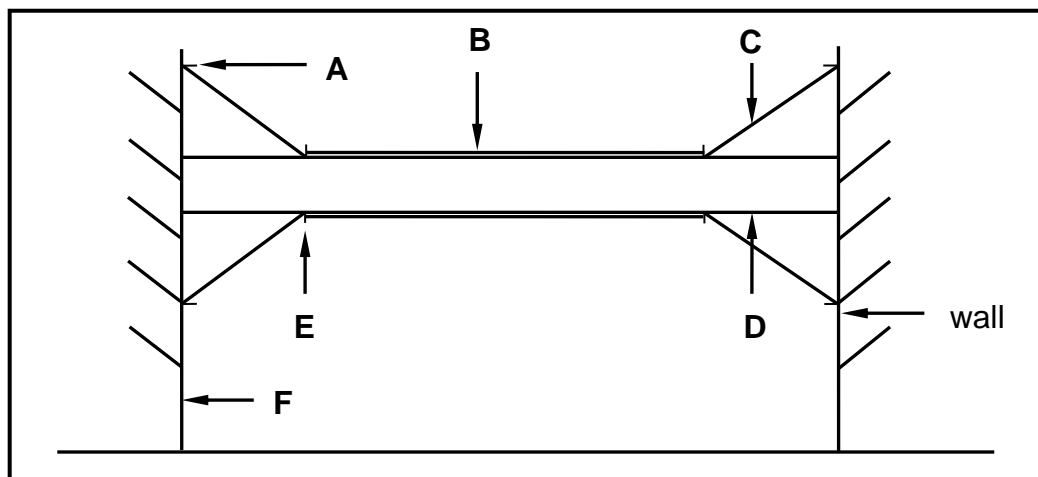

FIGURE 5.6
- 5.6 FIGURE 5.6 shows a line diagram of a double-flying shore between two walls. Label A to F. (6)